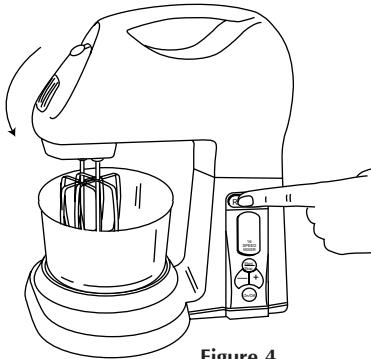

Figure 4
4. With Beaters, Cookie Dough Hooks, or Whisk properly in place, press Head Release Button while pivoting Mixer Head downward until it rests firmly in place. See Figure 4.